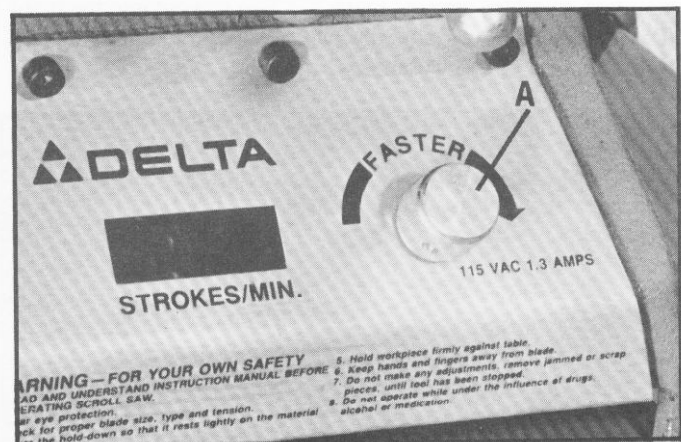

Fig. 14
Your saw may be equipped with a rotating ON-OFF Switch or a push/pull ON-OFF Switch. In both cases the switch appears as shown at (A) Fig. 14.
To turn the saw ON, rotate switch (A) Fig. 14, clockwise and to turn the saw OFF, rotate switch (A) counterclockwise.
To turn the saw ON, pull out switch (A) Fig. 14 and to turn the saw OFF, push in switch (A).